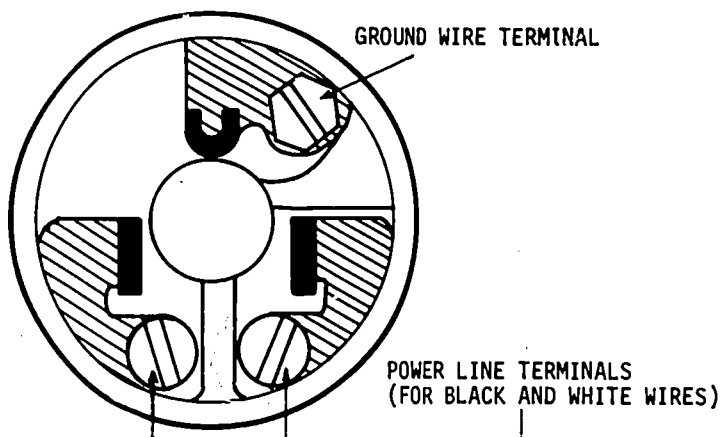

Fig. 66B-1. Three-Prong Male Plug Terminals
- b. The ground wire connects to the shaped prong. See Fig. 66B-1.